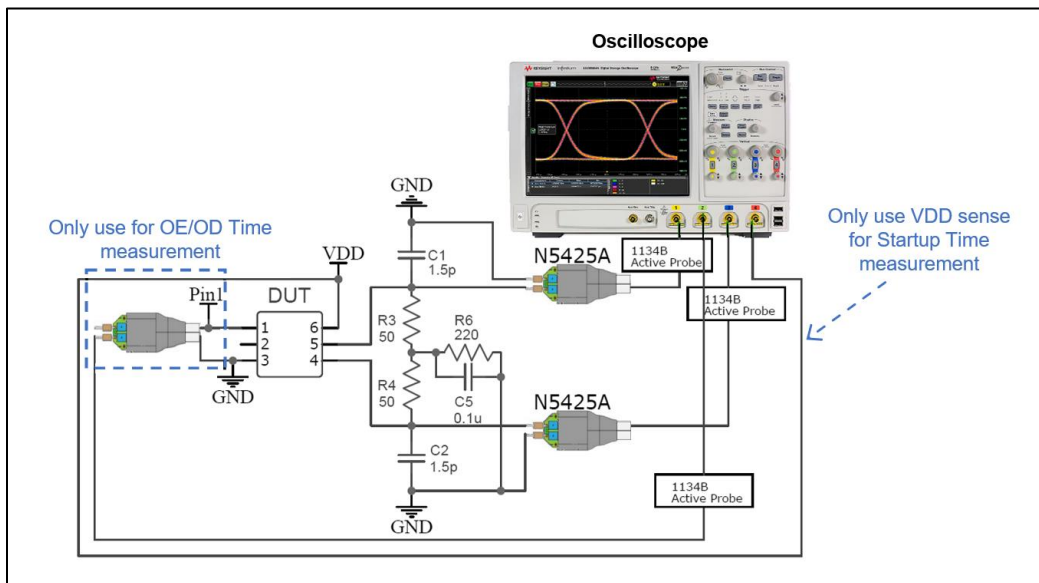

Figure 8. Test setup to measure FlexSwing Waveform Characteristics, Current Consumption^[16], Output Enable/Disable Time, and Startup Time
13. See Figure 8 for the test setup to measure LVPECL Current Consumption with Termination 1 or without Termination.